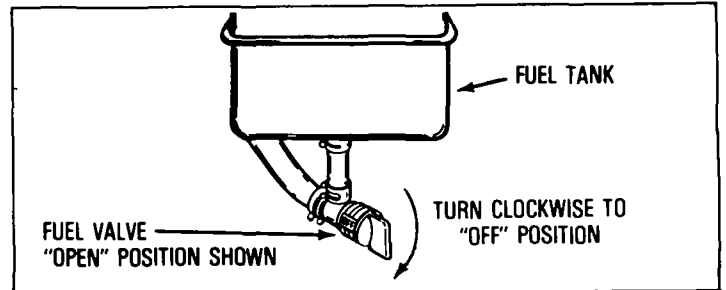

Figure 2
E. Be sure fuel valve (if so equipped - see Figure 2) is open.
③ AFTER ENGINE IS STOPPED:
- A. Close fuel valve (if so equipped - see Figure 2).